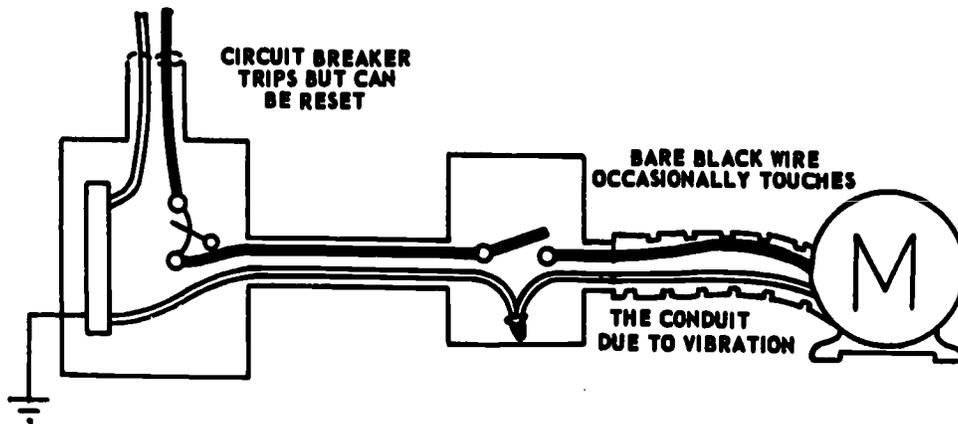

Fig 2-25. Floating short.
**A FLOATING SHORT** is a trouble that will appear and disappear in the circuit. That is, sometimes the circuit is shorted and sometimes is not. Electrical contact only occurs sporadically. Because the short comes and goes it is the most difficult to locate. The normal method of trouble-shooting this short is to replace the conductors (see fig 2-25).